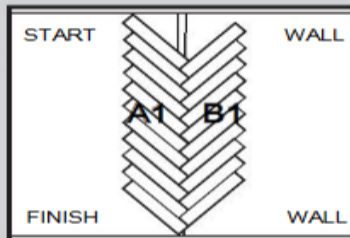

Fig 6.
- Continue installing planks without cutting any planks working in opposite directions. Verify that the installed planks are straight on the lines (Fig 6.).